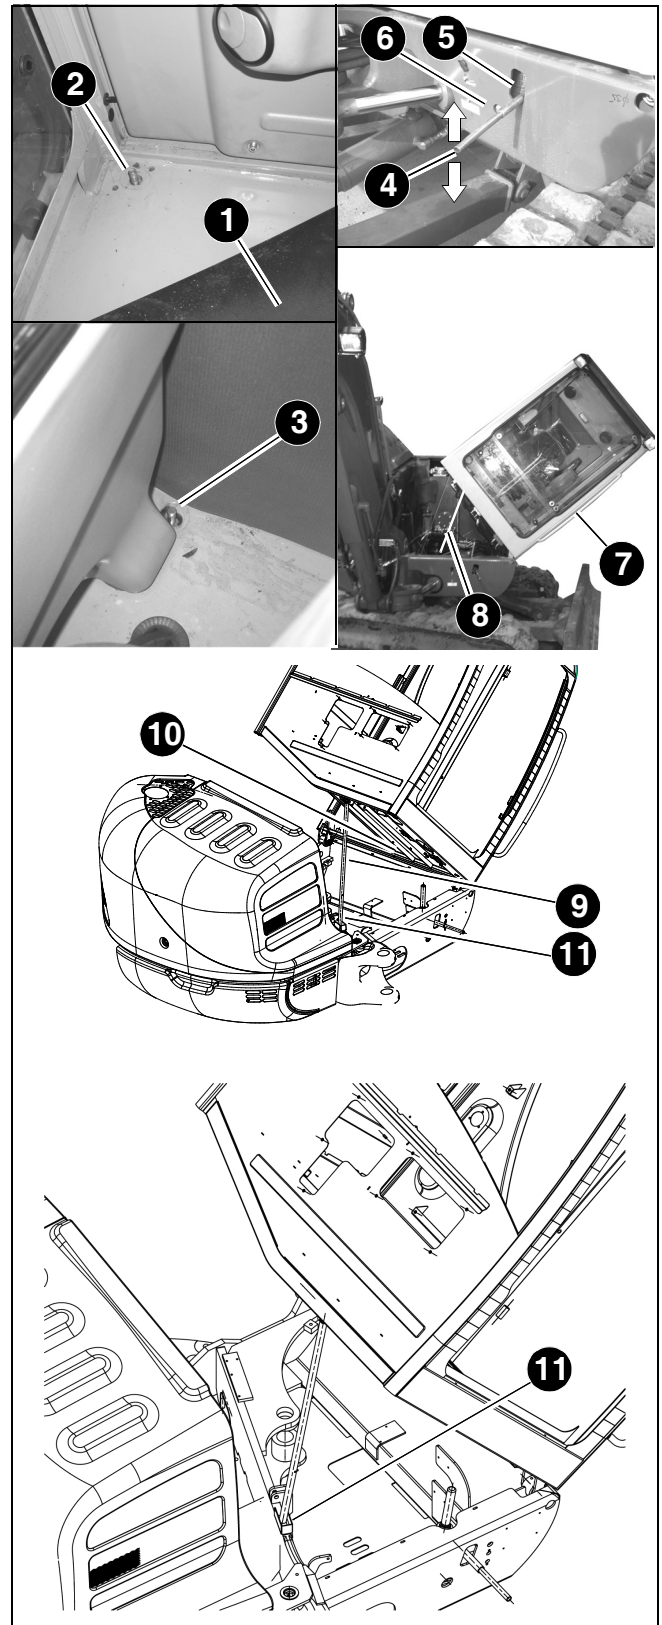

Figure 3-12 Tilting the cab or canopy
Refer to items 1—10 in Figure 3-12 to safely complete the following procedure.